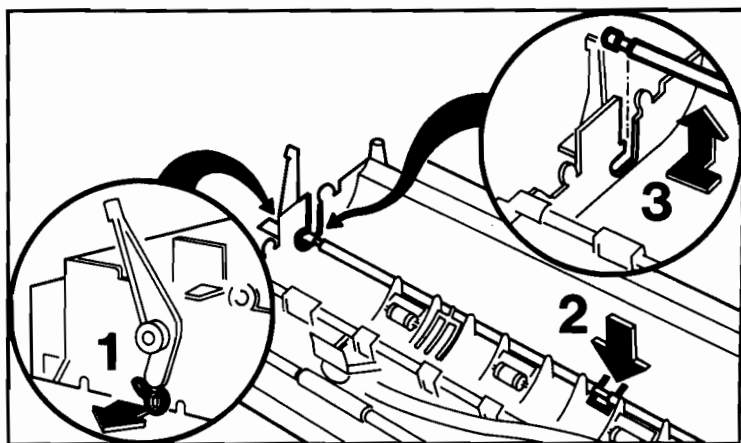

Figure 6-6. Removing the Pressure Roller Shaft
6. Disconnect the paper release lever spring from the paper release lever (step 1 in Figure 6-6).
7. Press on the pressure roller shaft release (step 2 in Figure 6-6) and slide the pressure roller shaft to the left until the groove on the pressure roller shaft aligns with the mechanism's left wall.
8. Push the left end of the pressure roller shaft back (step 3 in Figure 6-6). Then slide the pressure roller shaft out of the mechanism.